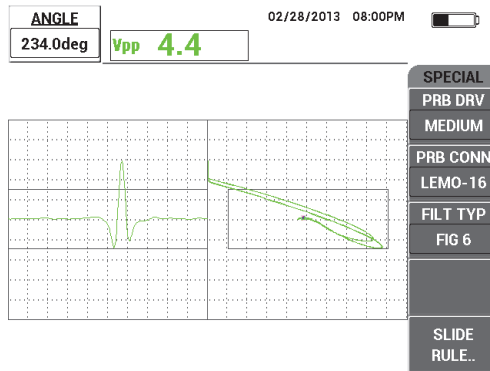

Figure 5-65 Adjusting the signal angle
6. Press the ANGLE key () , and then adjust the lift-off (probe-motion) angle so that it is as horizontal as possible and the notch signal points upward (see Figure 5-65 on page 175).